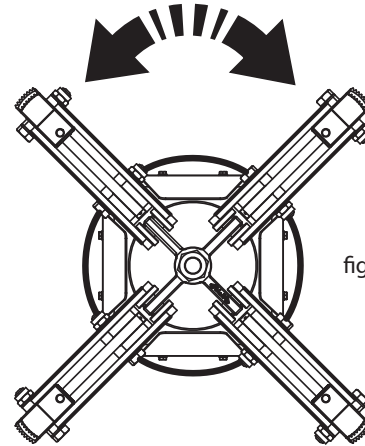

fig.1
AUTOCENTRANTE UNIVERSALE (fig.1)
FOUR-JAW UNIVERSAL CHUCK (fig. 1)
**AUTOCENTREUR UNIVERSEL (fig.1)**
**UNIVERSALSELBSTZENTRIERER (Abb. 1)**
**AUTOCENTRADO UNIVERSAL (fig.1)**